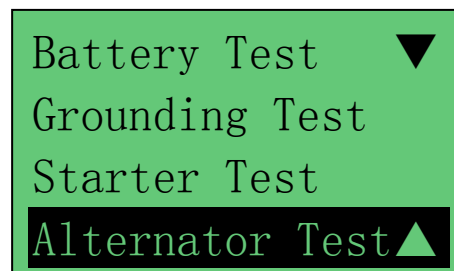

Figure 50
- Pressing  key to scroll down to the 'Alternator Test' (Fig.50)